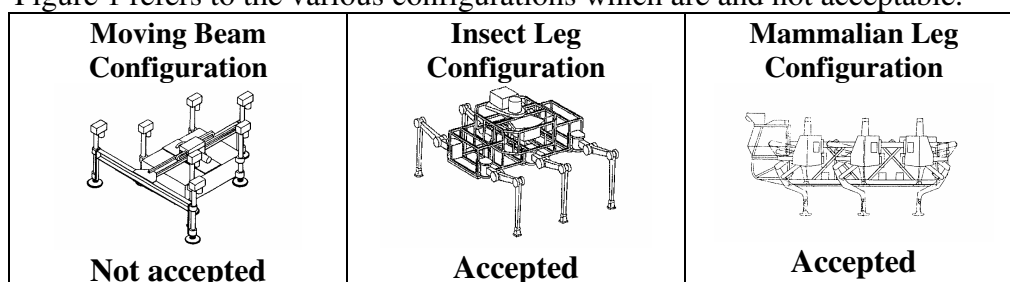

Figure 1
- Figure 1 refers to the various configurations which are and not acceptable.